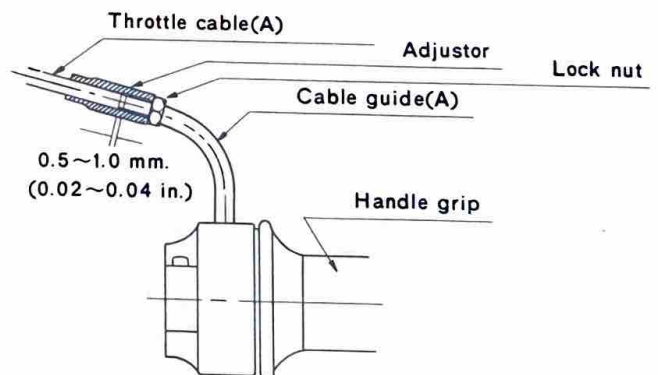

Fig 2-3-6
- b Next, adjust throttle cable(A) so that the gap as shown in Fig.2-3-6 below will be between 0.5 and 1.0 mm. (0.02~0.04 in.)
- Check the play of the throttle cable (A) by pulling on the outer part of the throttle cable. If the play is excessive or insufficient, adjust the play with the adjustment screw.
b If the pump guide pin is not aligned with the mark on the adjusting pulley, loosen the lock nut shown in Fig. 2-3-6.